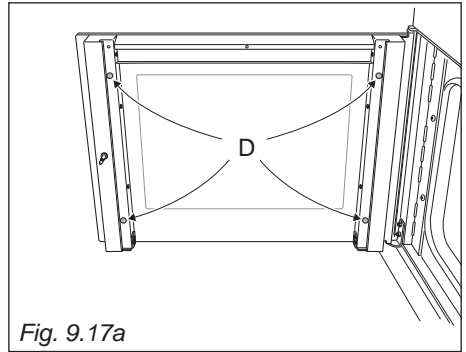

Fig. 9.17a
- Check that the four rubber pads are in place (“D” in fig. 9.17a).